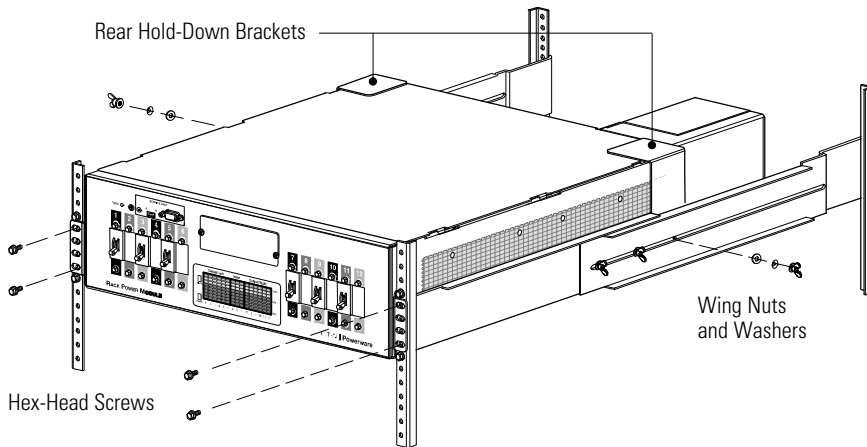

Figure 5. Attaching the RPM-3U/3Ui to the Rack (Hardwired Unit Shown)
7. Attach a rear hold-down bracket to each rail (see Figure 5):
9. Secure the front of the RPM-3U/3Ui to the rack with the supplied screws (see Figure 5).
10. Loosen the wing nut on each rear hold-down bracket so that the bracket slides easily in the rail. Align the edge of each bracket with the rear edge of the RPM-3U/3Ui as shown in Figure 5.